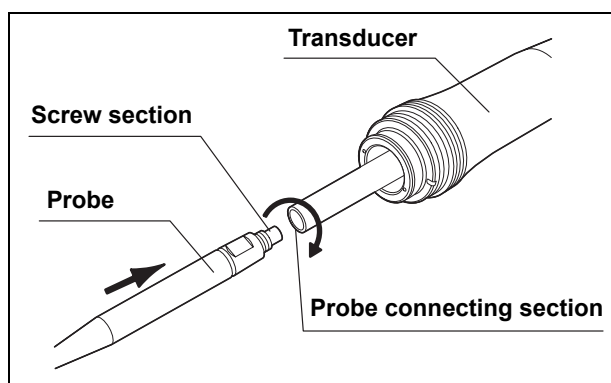

Figure 4.2
1. Insert the screw section of the probe into the probe connecting section of the transducer. Then, rotate the probe with your fingers until it stops (see Figure 4.2).